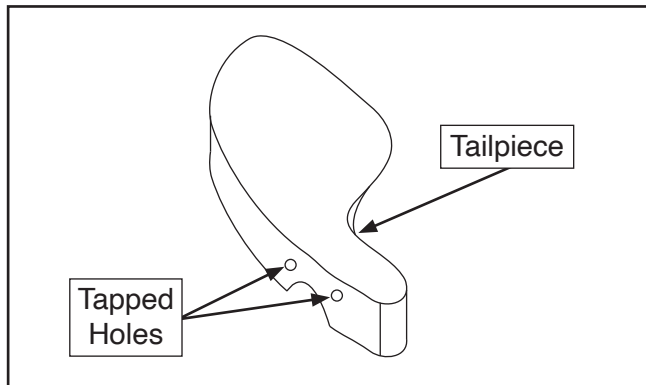

Figure 17. Holes drilled and tapped in chin rest.
4. Place chin rest bottom side up on a drill press and use a #6-32 NC drill bit to drill a $\frac{1}{8}$ " deep hole at marked locations (see **Figure 17**).
5. Use #6-32 NC tap to thread holes (see **Figure 17**).